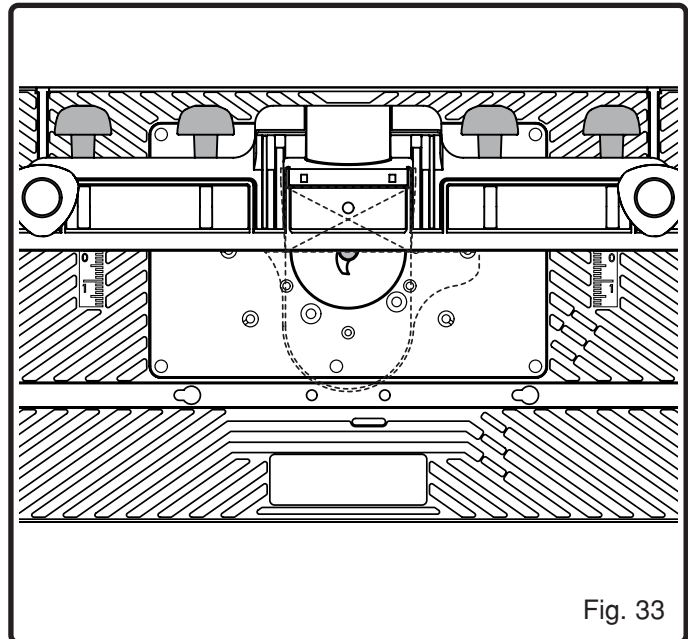

Fig. 33
See Figure 33 and 34
1. Loosen the 4 knobs (see Figure 33).
3. Tighten the 4 knobs securely (see Figure 33).